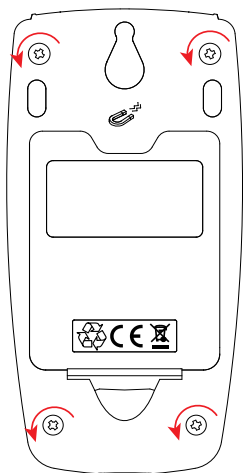

Figure 41
2. Turn the instrument over and unscrew the (4) screws using a Phillips screwdriver (Figure 41).